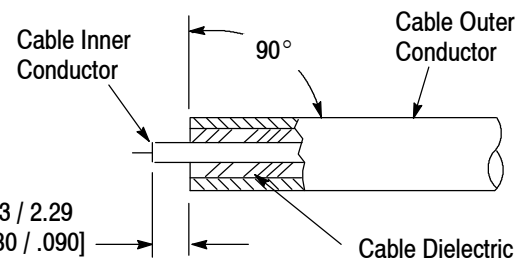

Figure 3
### 3.1. Preparing the Cable (Figure 3)
Trim cable to the dimensions shown in Figure 3.
1. Trim inner conductor to length as shown in Figure 3.